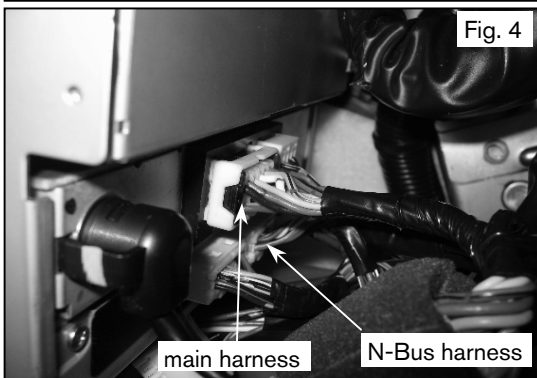
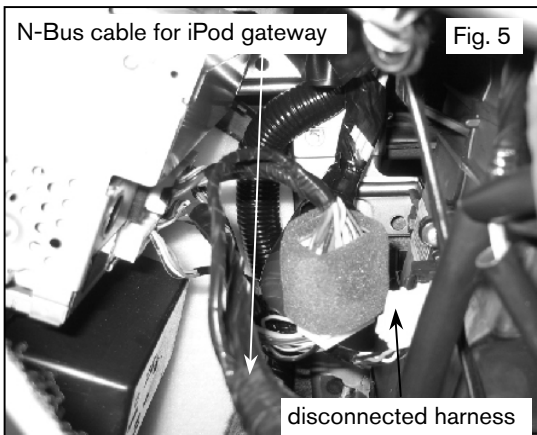

Fig. 4
Fig. 5
(2) From opening in glove box cavity disconnect main harness and N-Bus connectors from head unit. Fig. 4
(3) Attach appropriate connectors of iPod gateway harness to the head unit and main harness.
(4) Insert smaller connector of iPod gateway harness to the appropriate connector on the back of the head unit.
(5) Route other end of the iPod gateway harness towards the iPod gateway module mounting location.
(6) Attach the appropriate connector of the satellite radio harness to the disconnected N-Bus behind the head unit. Fig. 5